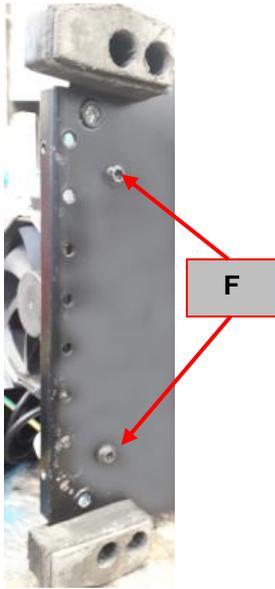

Figure 47
11. Using the TX25 wrench remove the 2 screws (F) on the bottom of the machine, See **Figure 47**